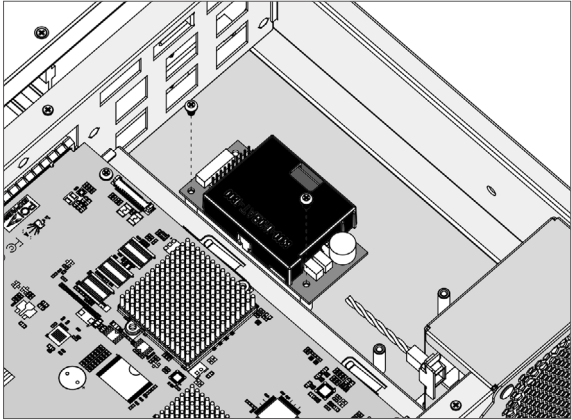

Figure C-3, Secure the Battery Module
2. After removing the cover, then secure the battery pack module (ARC-6120-BAT-12G, reference NO.1 in Figure C-1) in the bottom of the enclosure (for ARC-7208/ARC-7212), as shown in Figure C-3.